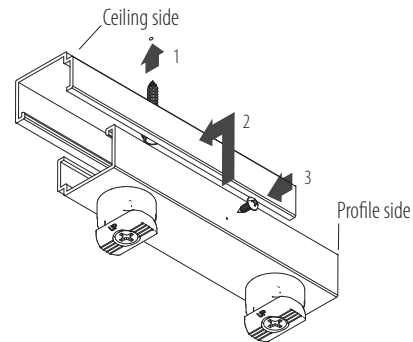

Figure 3a
- a. Connect the profile side installation rails to ceiling side installation rails. (Figure 3a)